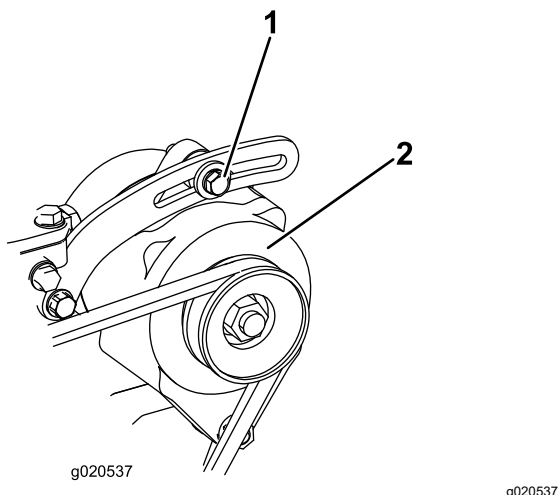

Figure 86
2. If the deflection is not 10 mm (3/8 inch), loosen the alternator mounting bolts (Figure 86). Increase or decrease the tension of the alternator belt and tighten the bolts. Check the deflection of the belt again to ensure that the tension is correct.